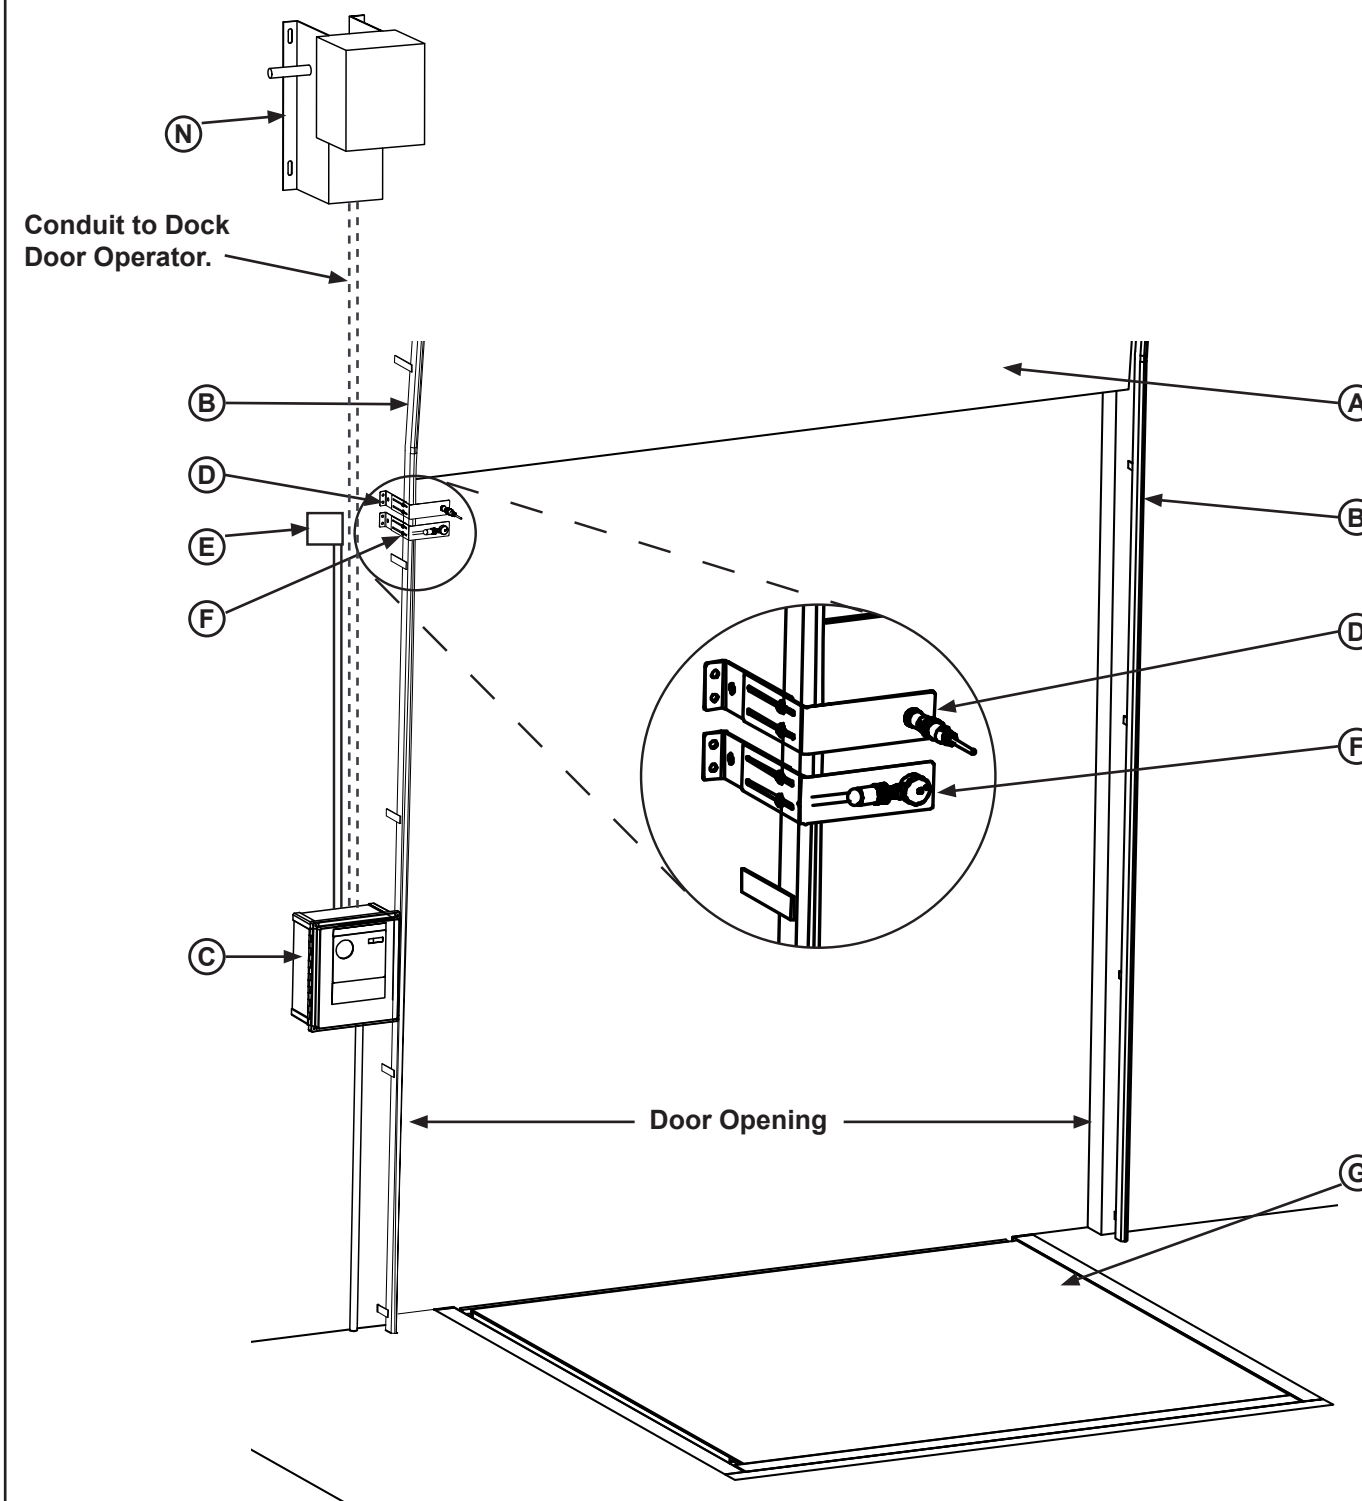

Figure 1
1. Before attempting the installation, review the wiring diagram for the iDock (C) and the door operator (N). See Figure 1.
3. If limit switches are not present, check with the operator manufacturer to see if there are retrofit options. If retrofit kits are not available, Systems, LLC offers door position sensors (D) and (F) that can be used instead. See Figure 1.
4. Plan a route for the limit switch wiring from the iDock to the operator (N). You will need 4 conductors between the operator and iDock (C). See Figure 1.